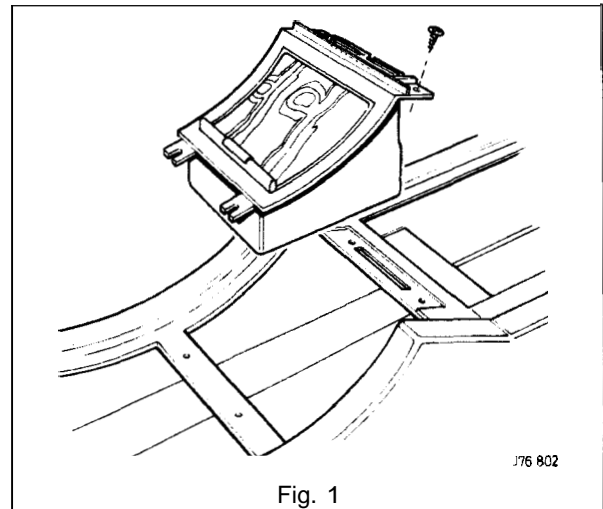

Fig. 1
- Undo and remove the lower cowl fixing screws (1 Fig. 1).
- Displace and reposition the lower cowl (2 Fig. 1); discard the ignition lock rubber gaiter (3 Fig. 1).
- Displace and remove the upper cowl (4 Fig. 1).